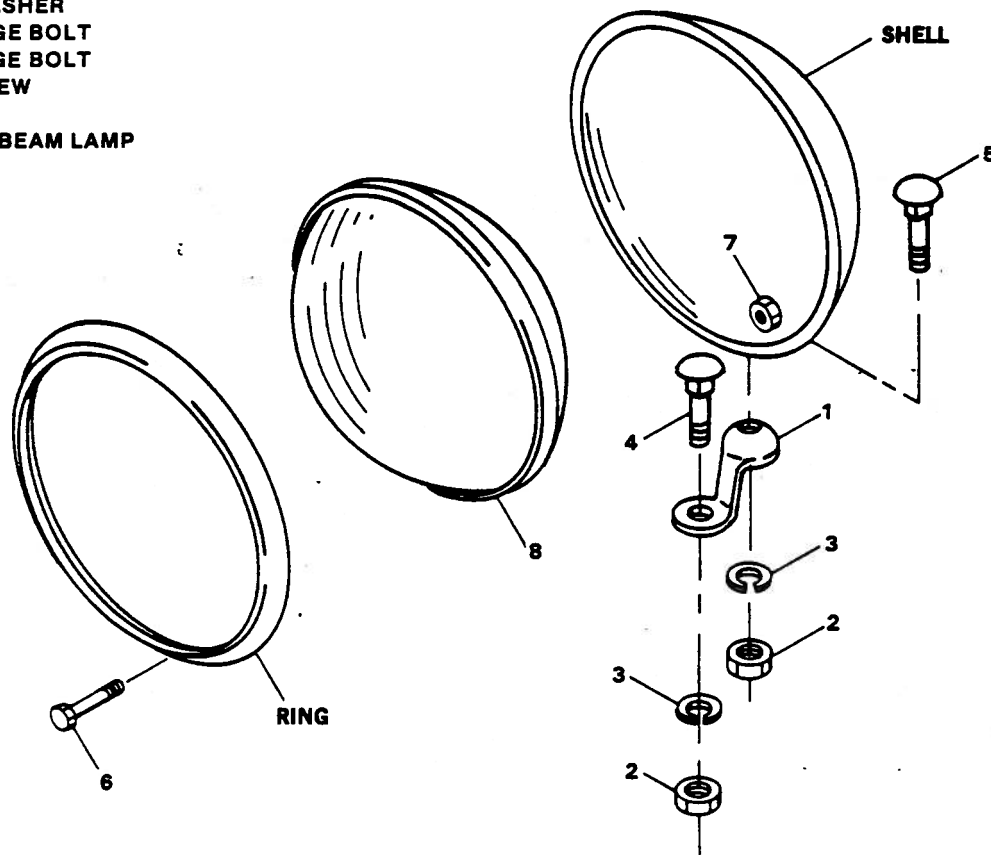

Figure 5-12. Front Driving Light Assembly
5-9. FRONT DRIVING LIGHT.**5-10. REMOVAL.** (See figure 5-12.)
- a. Remove nuts (2, figure 5-12), lockwashers (3) and carriage bolts (4 and 5).
- b. Remove shell from bracket (1).
5-11. DISASSEMBLY. (See figure 5-12.)
- a. Remove capscrew (6, figure 5-12) securing ring to shell.
- b. Remove sealed beam lamp (8).